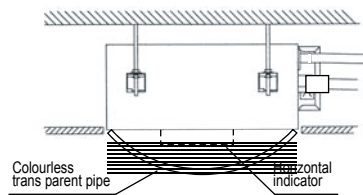

Fig.5-6
- Use the transparent hose filled with water to check the lever of the main body from the four sides or diagonal line direction, the lever indicator also can check the lever from four sides of the main body. (Refer to Fig.5-6)